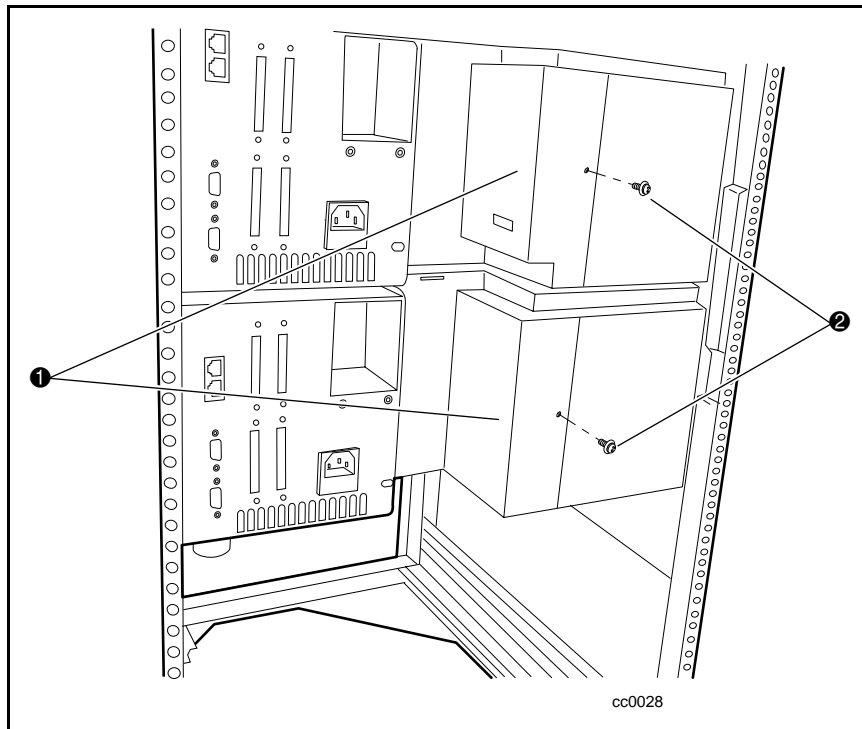

Figure C-9. Removing the PTM port cover
5. Remove the retaining screw ② that secures the PTM port cover ① to the rear of each Library unit (see Figure C-9).